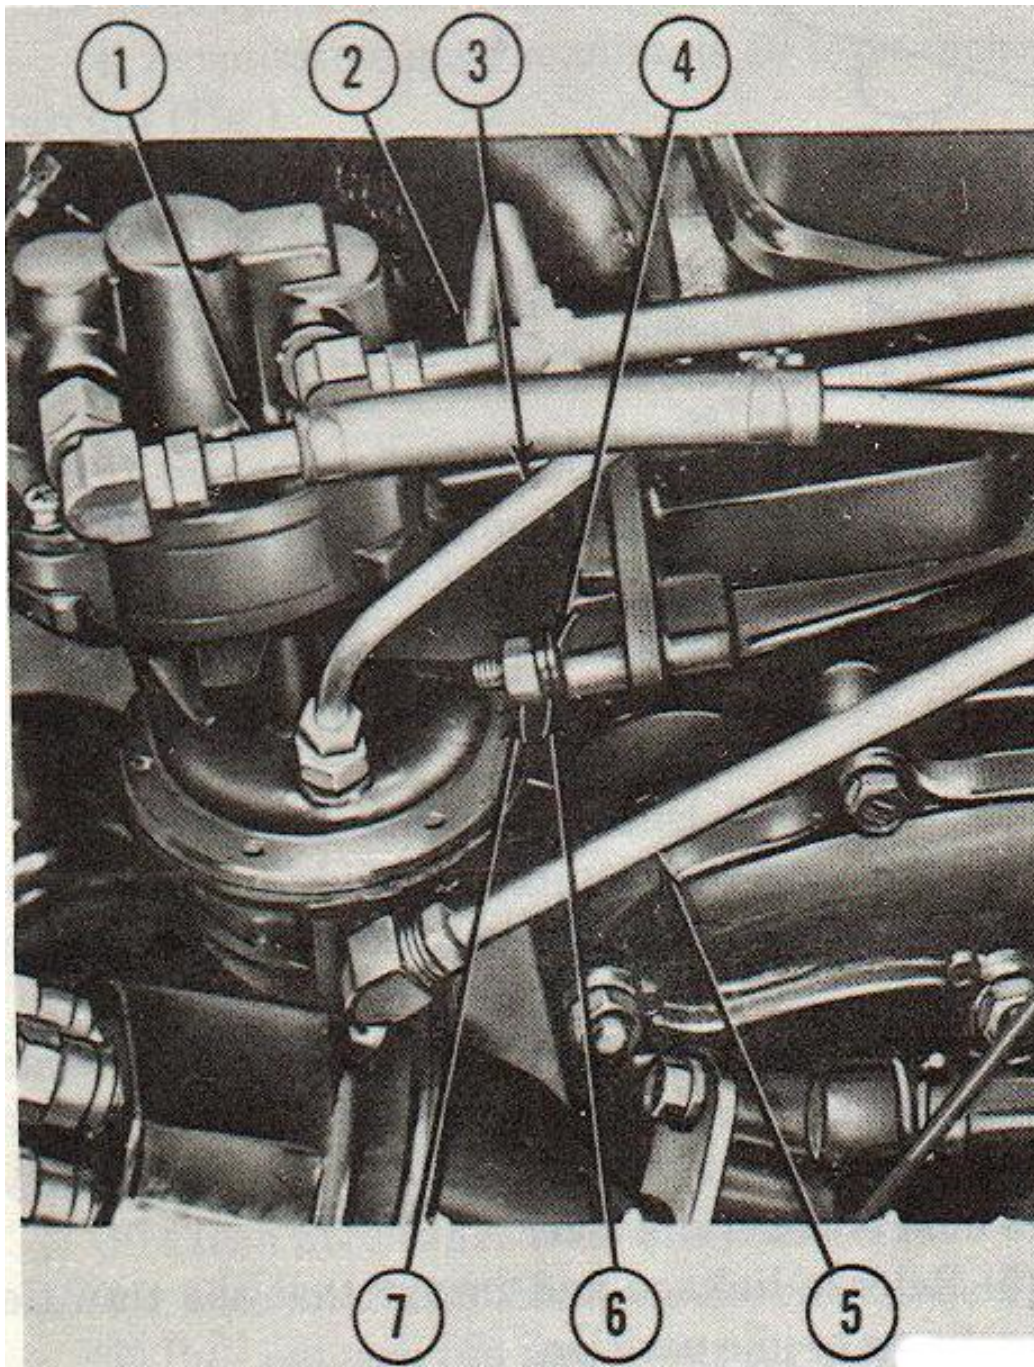

Figure 2-16. Removing fuel pump
- (2) Place a suitable container beneath drain plug and completely drain. Reinstall drain plug.
- (3) Disconnect fuel filler hose from fuel tank neck.
- (4) Disconnect fuel indicator electrical cable.
- (5) Disconnect fuel outlet pipe from fuel tank connection.
- (6) Disconnect fuel tank ventilation tube.
- (7) Support fuel tank and remove two nuts and lock washers which secure fuel tank supporting straps to body brackets.
- (8) Disconnect supporting strap attaching bolts from body bracket and remove fuel tank.
b. Fuel Pump (Fig. 2-16)
- (1) Disconnect fuel, vacuum and vent lines from fuel pump.
- (2) Remove two nuts and lock washers securing fuel pump to engine block.
- (3) Remove fuel pump and gasket from engine. Discard gasket.